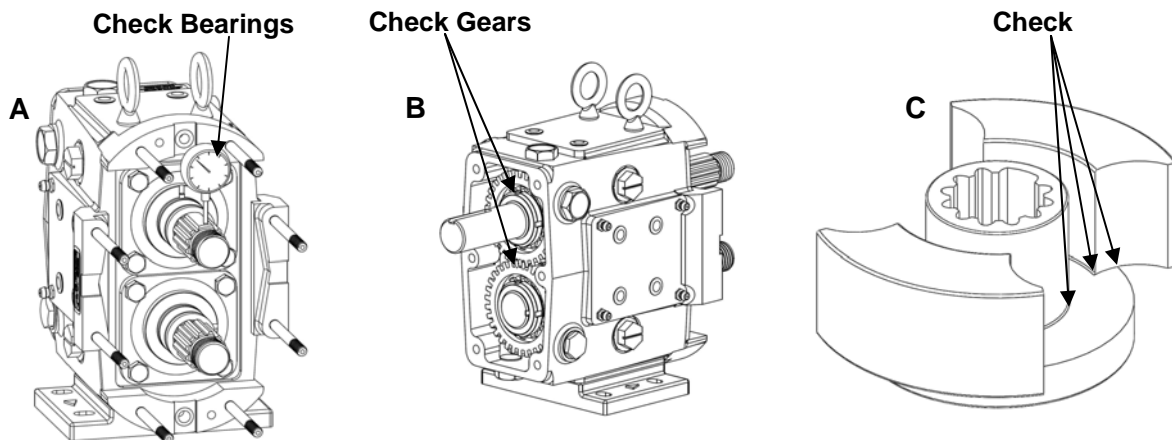

Figure 22: Annual Maintenance Checks
- Check the gear case bearings by measuring the shaft's radial movement with a dial indicator (Figure 22, A). If the movement is greater than or equal to the rotor-to-body clearance found on page 33 (Table 8) the bearings should be replaced.
- Remove the gear casing cover (See page 21 for disassembly information) and inspect the gears for wear and damage (Figure 22, B). Also check for backlash and looseness.
- Inspect the rotors for signs of wear and stress cracks around the areas defined in Figure 22, C. Replace, if necessary.